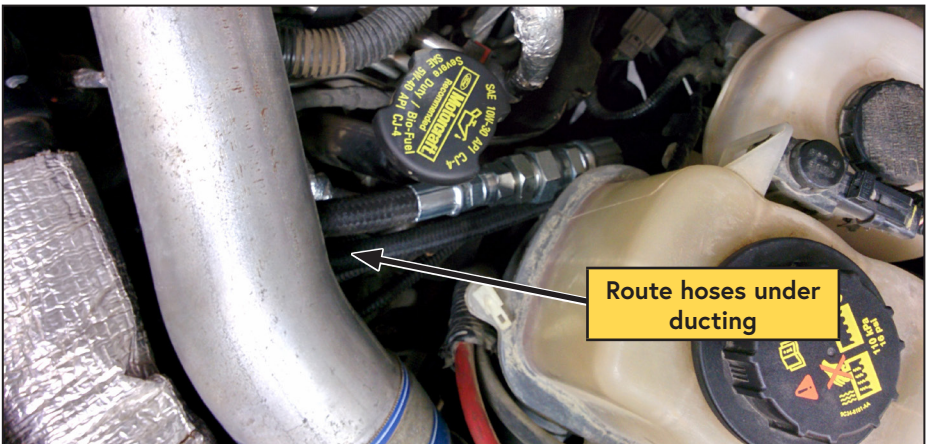

Figure 23 — VMAC hose routing
- Route the hoses and PTFE under the OEM Charge Air Cooler (CAC) tubing. Avoid the OEM vacuum lines, electrical harnesses, upper radiator hose, and the oil fill cap. The hoses should reappear near the coolant reservoir on the driver side of the engine bay (Figure 23).